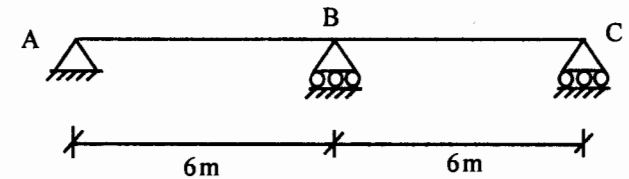

Figure-4
- (a) Determine and draw the influence line for the reaction at the middle support 'B' of continuous beam shown in Figure-4 and compute the ordinates at every 2 m intervals :